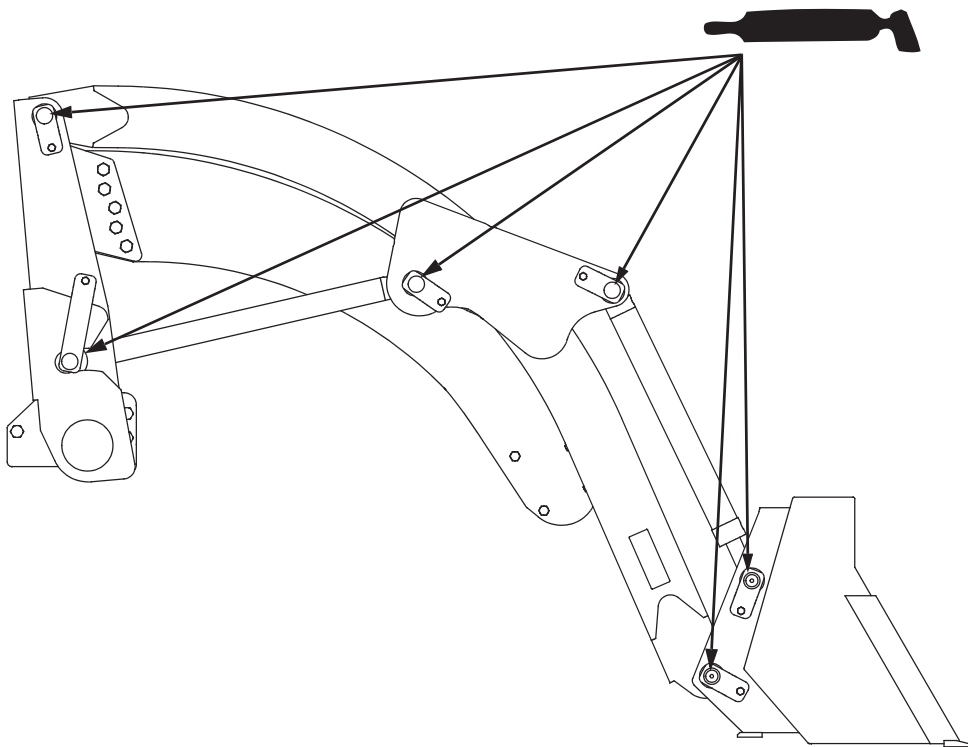

Figure 30
- Lubricate after every eight hours of operation (See Figure 30):